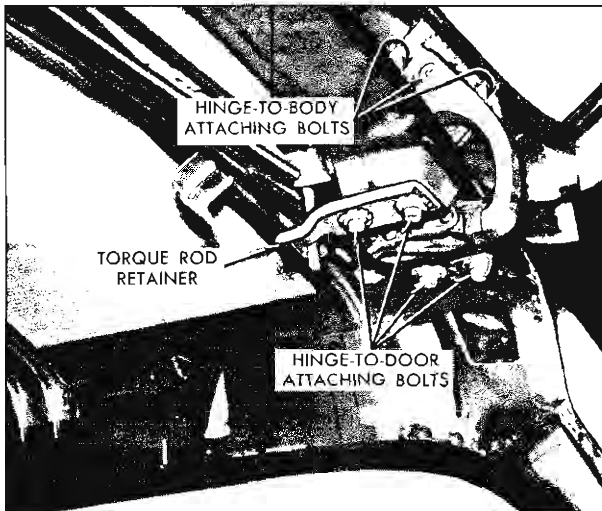

Fig. 14-10 Back Door Hinge and Torque Rod Retainer
2. With aid of a helper, to hold back door, remove hinge-to-back door attaching bolts. (Fig. 14-10).
b. Mark position of torque rod retainers, (Fig. 14-10), at both right and left hinges to facilitate repositioning of retainers in same fore and aft position.
c. Using a suitable length of pipe over end of torque rod, release tension of torque rod from retainer. While tension of torque rod is released from retainer, loosen retainer attaching bolts, (Fig. 14-10); then, release retainer. Loosen the two remaining hinge attaching bolts. Perform this operation at both right and left hinges.